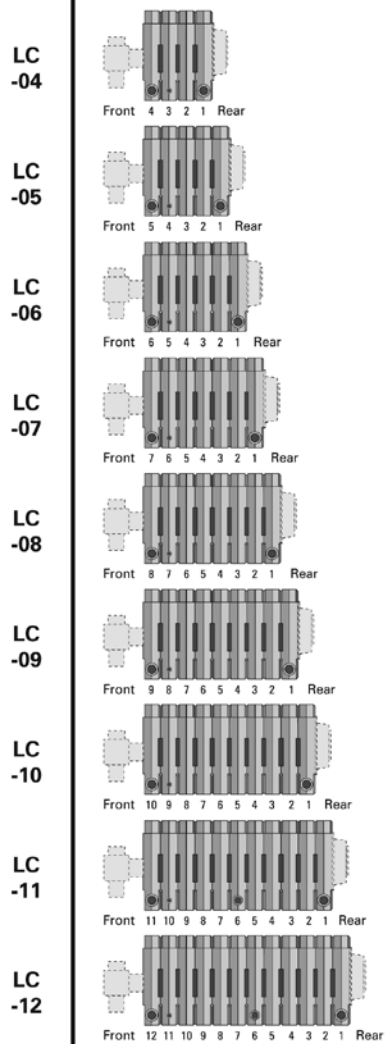

Figure 2.7: Boiler Section Assembly Sequence
- b. Place the Intermediate Section with 3" top tapping (Tapped Intermediate) in the position given in Figure 2.7.